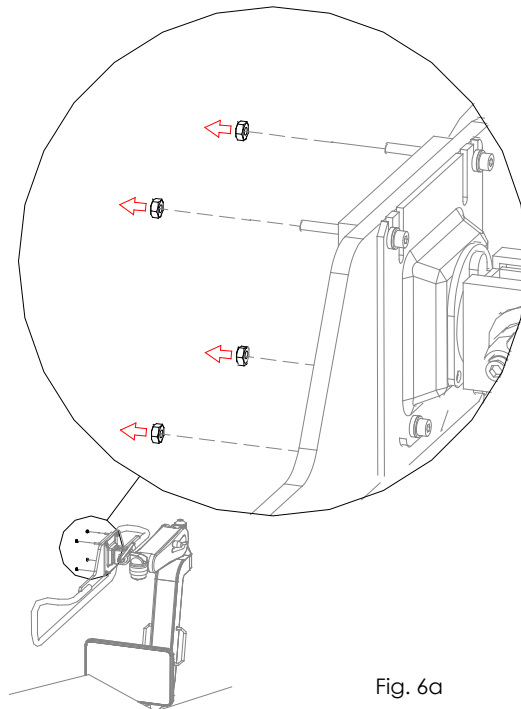

Fig. 6a
- 4 Unscrew the nuts, as shown in fig. 6a.